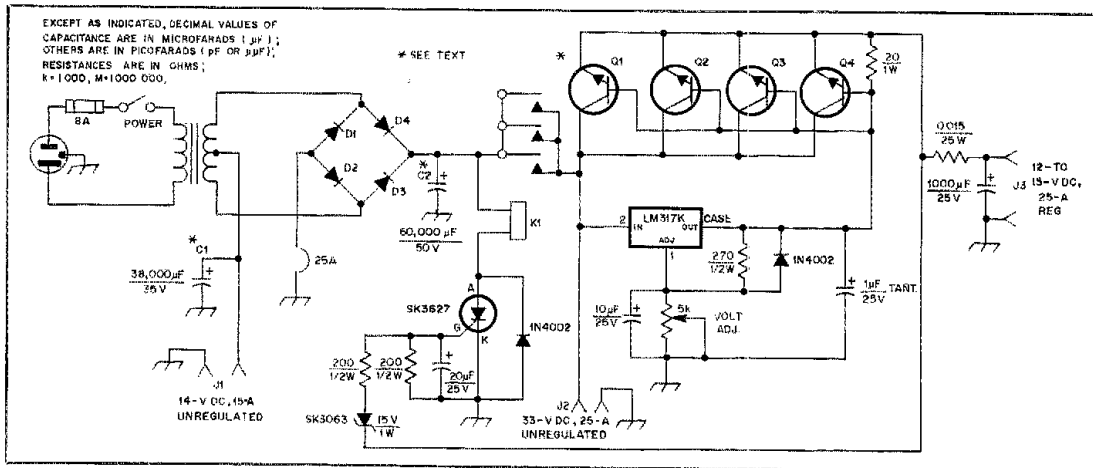

Fig. 2 — Schematic diagram of a 25-A power supply built from an automotive-type battery charger by K0UDZ.
□ I have seen old automotive-style battery chargers for sale at many flea markets. Most of these high-current devices sell for a few dollars, and they usually have a burned-out rectifier, a broken wire or some other minor fault. The 15- or 30-A ratings make them ideal candidates for power-supply parts. Fig. 2 is the schematic diagram that I used to build a high-current power supply. You can change the number of 2N3055 transistors and other component ratings to suit the supply you are building.